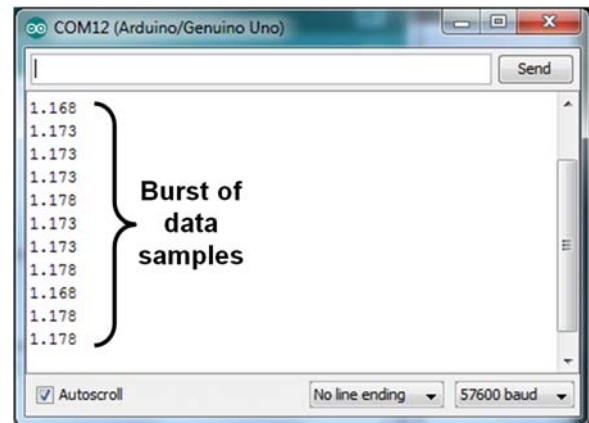

Fig. 8: Sending 'y' to the Arduino should result in a rapid burst of data.
- You should see a rapid burst of voltage values appear (see Fig. 8).